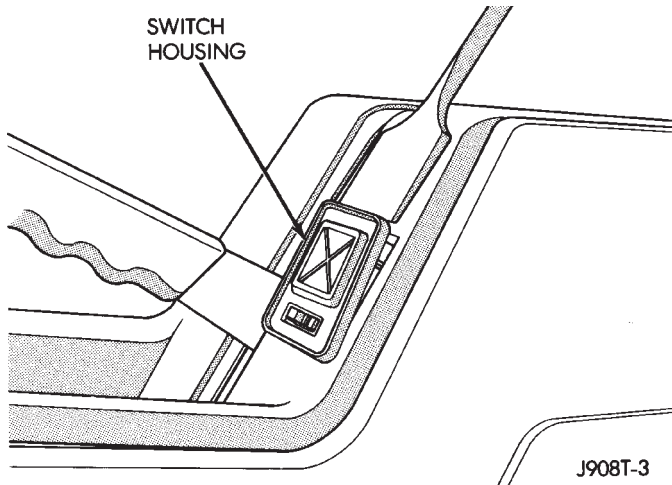

Fig. 1 Power Mirror Switch Removal/Installation—XJ
(1) Using a wide flat blade tool, pry the switch housing away from the center console (Fig. 1).